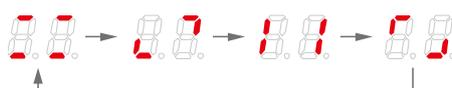

Figure 5: In-process display
- 5.4 Hold down the START key while turning ON the power. When the 7-segment LED shows the in-process display (see figure 5), release the START key.